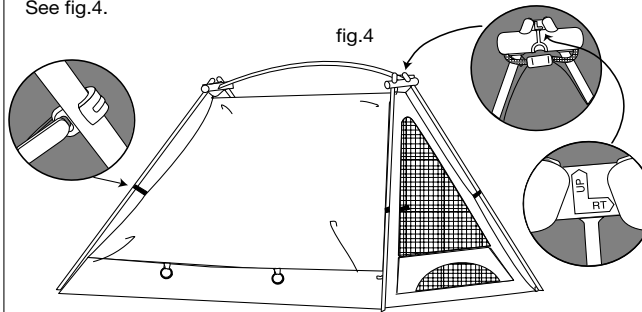

fig.4
• Connect the tent to frame by pulling the shock-corded loops, at the peaks of the tent, over the junction tubes. Snap tent clips to the poles. **NOTE:** Junction tubes can be tied to the tent with the strings provided. Tie one end to the shock-cord loop. Pass the other end through the 1/8" hole in the junction tube and tie a knot. See fig.4.